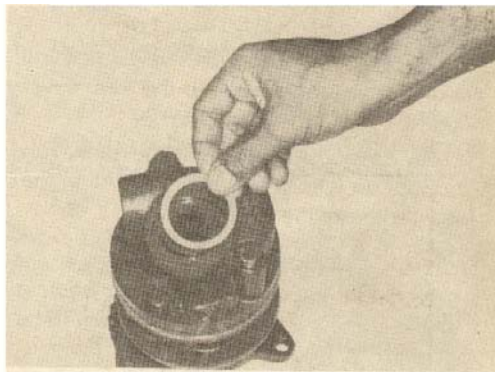

Fig. 14.33, Install the sealing ring
2. Coat both sides of the sealing ring with a lubriplate and put on the rear (block end) of the pump. Fig. 14-33.